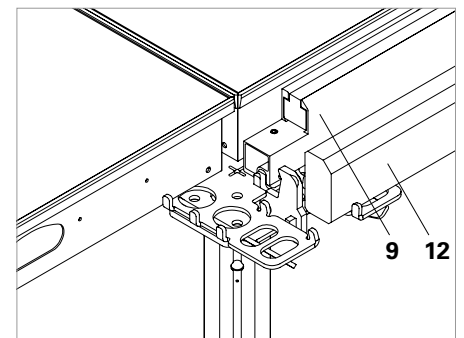

Fig. A5.13
- Edge Beam SRT (9) and Filler Timber SPH (12) or timber provided by the contractor with $b = 3.8 - 8$ cm and $h = 9.8$ cm. (Fig. A5.13)